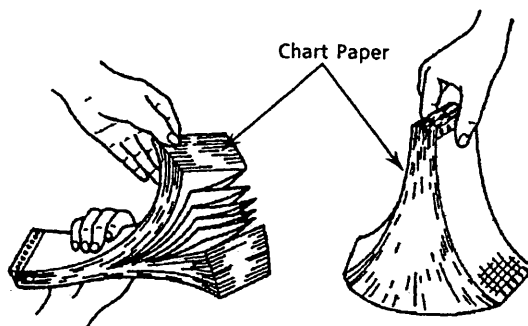

Figure 6.1.1
- 1) To ensure a proper chart-feed, riffle and fan the chart on both ends (see Figure 6.1.1).